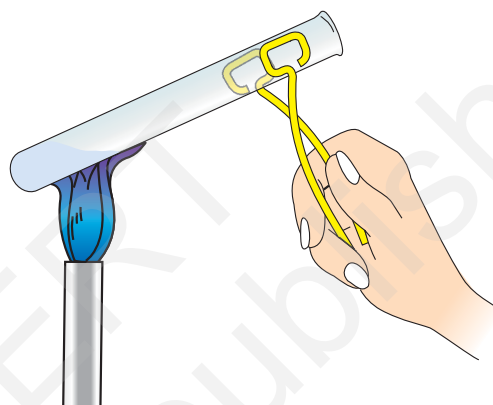

Fig. 1.1 : Correct method of heating solution in a test tube
- Do not heat the test tube containing solution with its mouth towards yourself or your neighbour as the spurting of content may harm you or your neighbour (Fig 1.1). Do not heat the test tube continuously in one position. Keep it moving and shaking while heating so that heating is uniform.